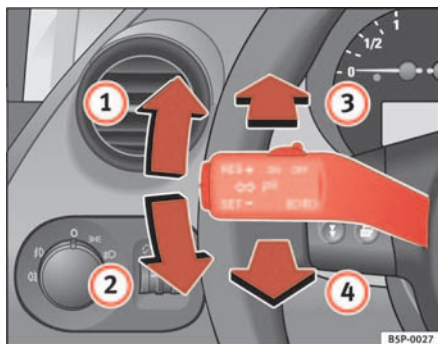

Fig. 78 Turn signal and main beam headlight lever
- Move the lever all the way up ⇒ fig. 78 ① to indicate **right**, and all the way down ② to indicate **left**.
- Press the lever forward ⇒ fig. 78 ③ to switch on the main beams.